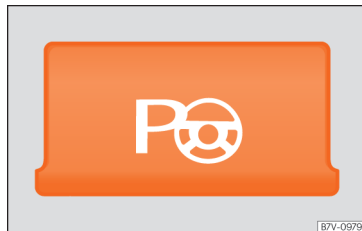

Fig. 269 Detailed view of the centre console: button to switch the park assist system on manually. »
- »» **Fig. 269** button as many times as necessary to select the desired parking mode. When the function is enabled, the lamp button will light up.
- Press button . When the function is enabled, the button  **Fig. 269** will light up.